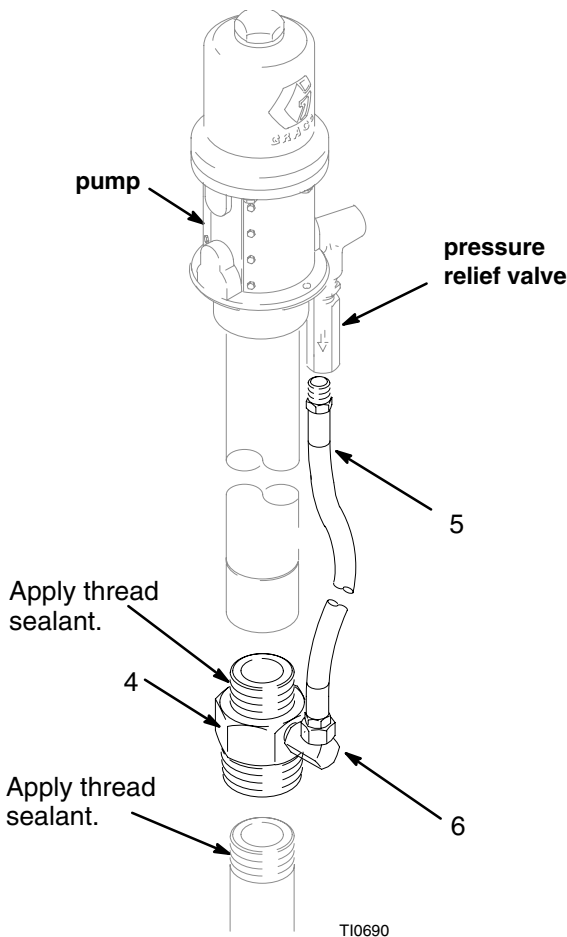

Fig. 2
NOTE: See Fig. 2 for a bung-mounted drum installation
The bung adapter kit routes pressure-relieved fluid from the pressure relief valve, through the bung adapter, and back into the tank. Install as follows. See Fig. 2.
2. Thread the 2–11 1/2 npt(m) threads of the bung adapter (4) into the bung of the tank cover. See Fig. 2.
3. Thread the pump onto the 1 1/2–11 1/2 npt(m) threads of the bung adapter (4).
4. Thread the 90° swivel adapter (6) into the 3/8 – 18 npt(f) threads of the bung adapter (4) with female adapter nut pointing up.
5. Thread the coupled hose (5) into the female threads of the pressure relief valve using thread sealant.
7. Connect the bottom end of the coupled hose (5) into the 90° swivel adapter (6) and tighten the adapter nut. No thread sealant is required.
4. Thread the 2–11 1/2 npt(m) threads of the bung adapter (4) into the bung of the tank cover. See Fig. 2.
5. Thread the pump onto the 1 1/2–11 1/2 npt(m) threads of the bung adapter (4).
6. Thread the 90° swivel adapter (6) into the 3/8 – 18 npt(f) threads of the bung adapter (4) with female adapter nut pointing up.
7. Thread the coupled hose (5) into the female threads of the pressure relief valve (3) using thread sealant.
8. Connect the bottom end of coupled hose (5) into the 90° swivel adapter (6) and tighten the adapter nut. No thread sealant is required.